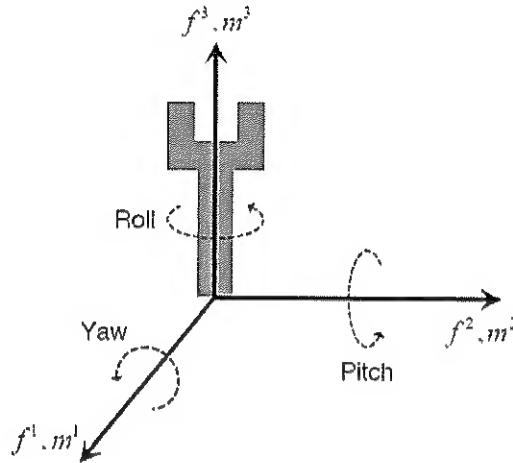

Fig. Q2
a) Consider the robotic tool shown in Fig. Q2. Suppose we yaw the tool by $\pi/2$ about f^1 , then pitch the tool by $-\pi/2$ about f^2 , and finally roll the tool by π about f^3 .